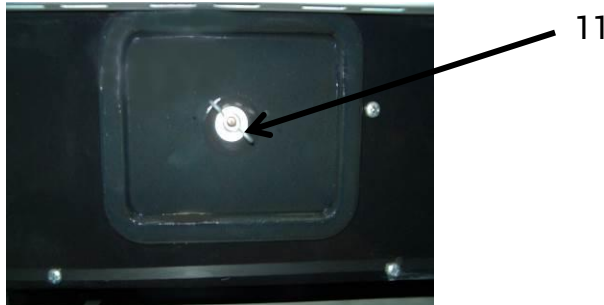

Fig. 5
There is a cover (Figure 5, item 11) behind the protective cover of the opening for cleaning. The cover is fixed with one butterfly screw on the front side of the stove and in order to clean the inside of the stove, it should be removed. Before screwing it again, the sealing braid that is on the cover should be controlled for sealing and, if necessary, it should be replaced.